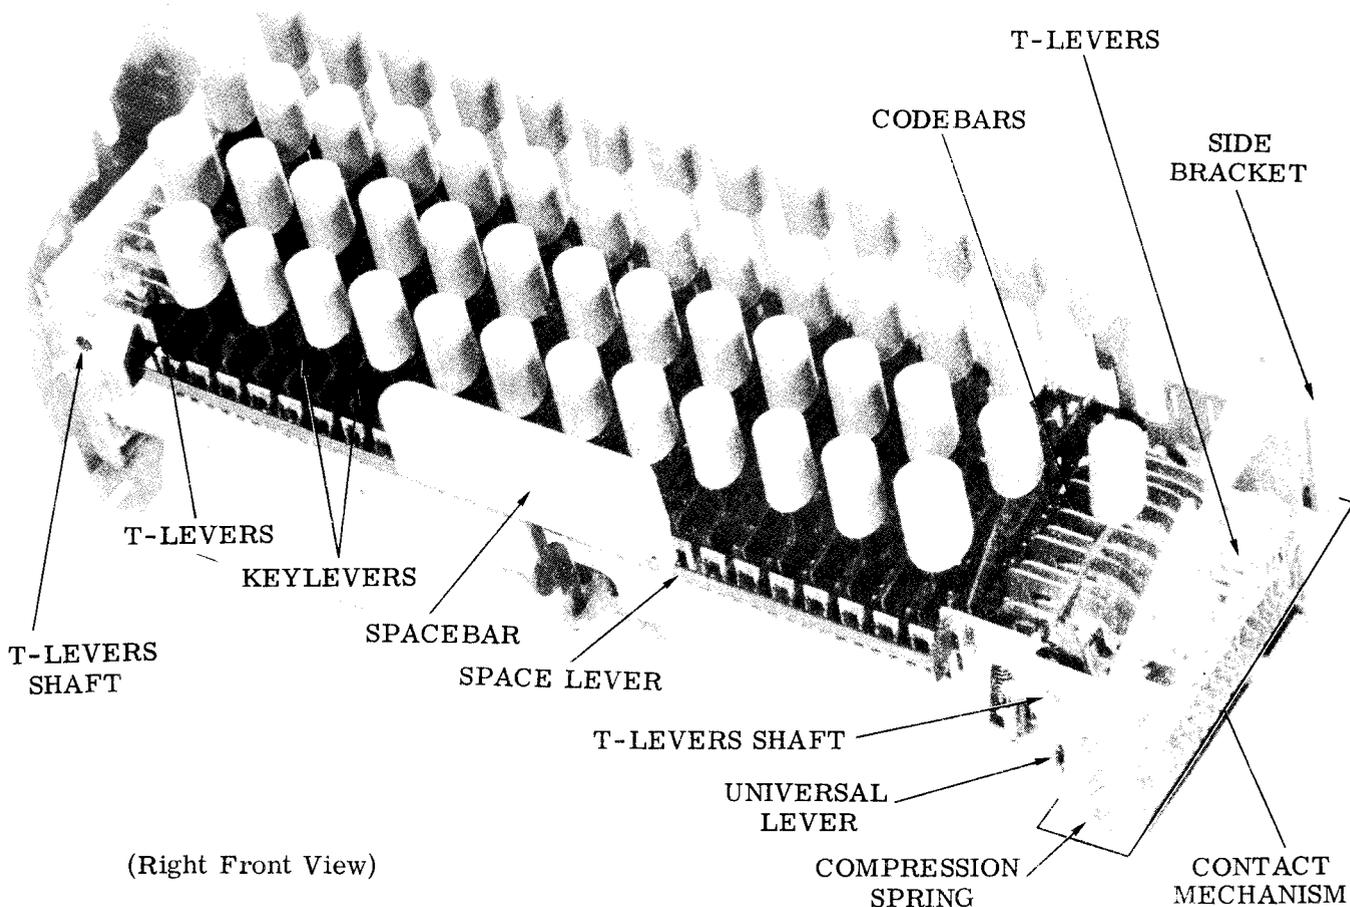

Figure 1 - Keyboard (Cover Removed)
2.02 To remove any keylever (Figure 1), proceed as follows.
2.03 To remove spacebar mechanism (Figure 1), proceed as follows.
- 2.04 To remove any codebar (Figure 1), proceed as follows.
- 2.05 To remove keyboard contact mechanism (Figure 1), proceed as follows.
- 2.07 To remove the T-lever shafts (Figure 1), proceed as follows.